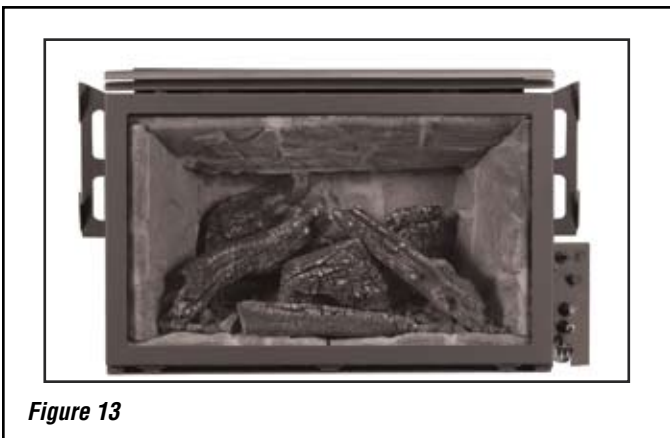

Figure 13
4. **Figure 13** shows the insert with the door in place.